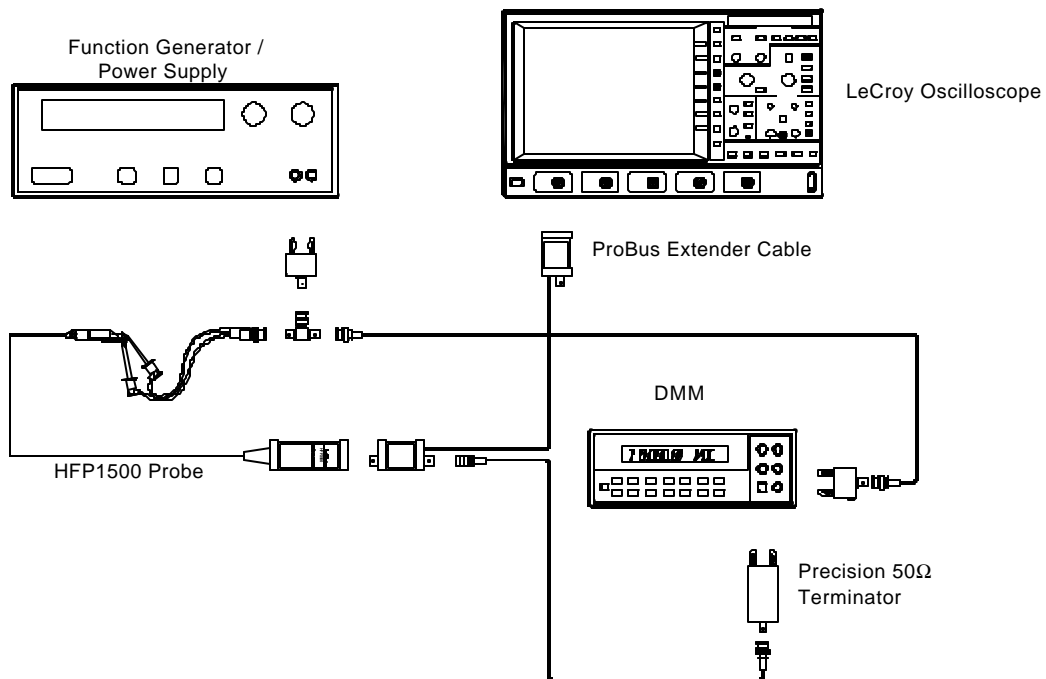

Figure 7-2. Offset and LF Attenuation Accuracy Test Setup
1. Connect the BNC end of the BNC to mini-grabber cable to a female end of the BNC tee adapter and connect a female BNC to dual banana plug adapter to the male end of the BNC tee. (Refer to figure 7-2).